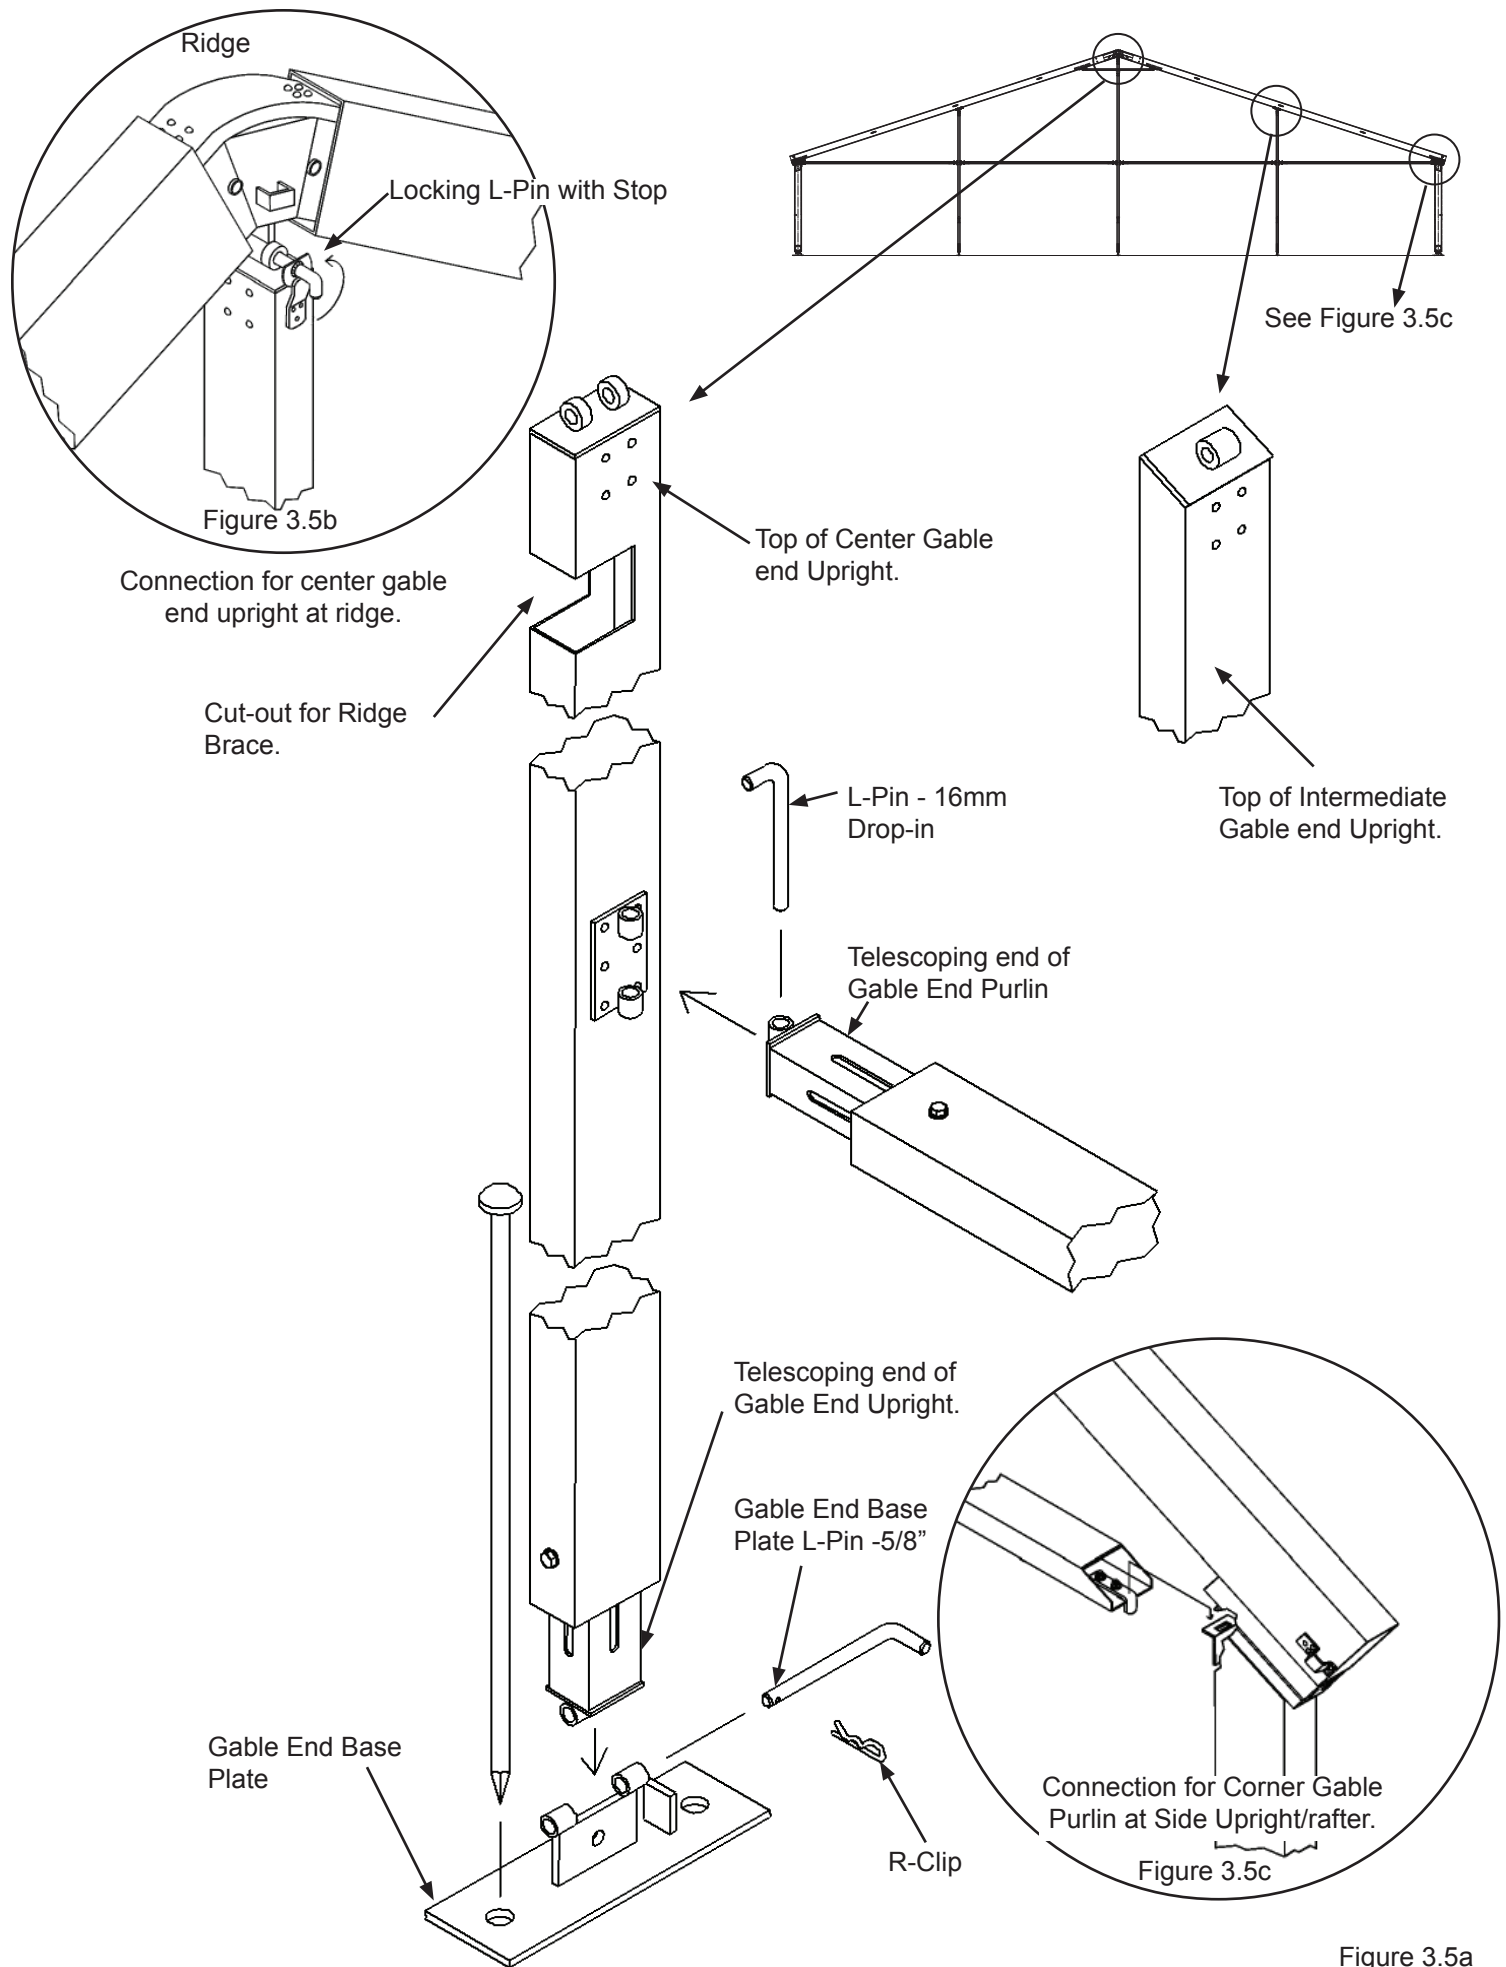

Figure 3.5a
- 3.5.2 At the Center Uprights, (where required) connect the insert weldment at the top of the G.E. Upright to the hinge tube at the bottom of the Ridge Weldment using the Locking L-Pin with Stop. See **Figure 3.5a. IMPORTANT:** Pay attention that the collar on the L-pin is engaged in the safety latch bracket at top of upright.
- 3.5.4 After the G.E. Uprights are connected to the arches, swing the G.E. Upright out from either side of vertical and insert the G.E. Base Plate into the bottom of the G.E. Upright. Swing the upright back to vertical. Adjust the G.E. Base Plate in or out to suit the adjoining grade and pin using the G.E. Base Plate L-Pin and R-Clip. See **Figure 3.5a. IMPORTANT:** Do not stake at this time.